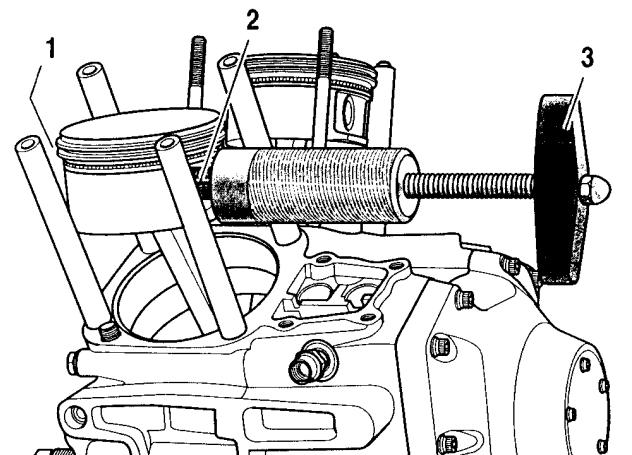

Figure 3-28. Piston Pin Remover (Part No. HD-42320-A)
- See Figure 3-28. Remove the piston pin. If piston pin is difficult to remove, use PISTON PIN REMOVER (Part No. HD-42320-A).
- Slide rod end through piston pin. Install spacer and acorn nut (1) on end of rod.
- Position rubber-coated tips (2) of tool on flat each side of pin bore.
- Turn handle (3) in a clockwise direction until piston pin is pulled free of bore.